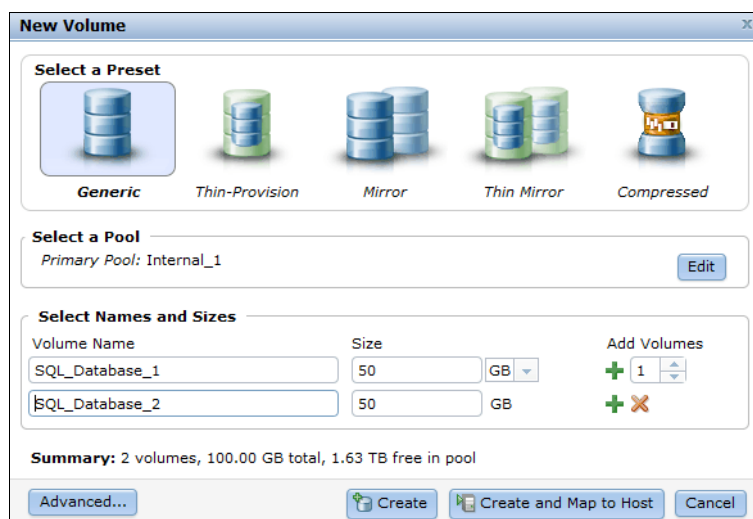

Figure 6-4 Create a generic volume
2. Select the managed disk pool where you want the volume to reside by clicking it. You may create multiple volumes by clicking the green plus sign below the Add Volumes column. We choose to create two new volumes. The result is shown in Figure 6-4.